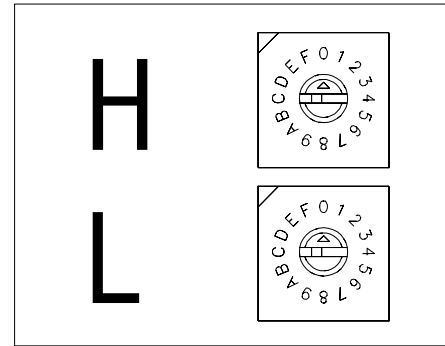

Figure 9: Driver Address Dials
Addresses are set through the S2 (L) and S3 (H) rotary switches on the driver (**Figure 9**) using a small flathead screwdriver.